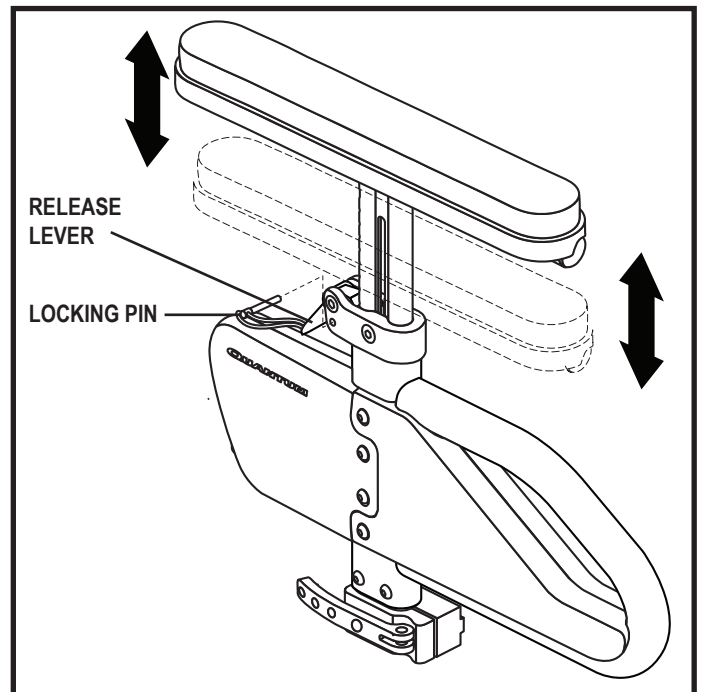

Figure 25. Single Post Quick Height Adjustable Armrest Top Height Adjustment
1. If present, remove the optional locking pin. **See figure 25.**